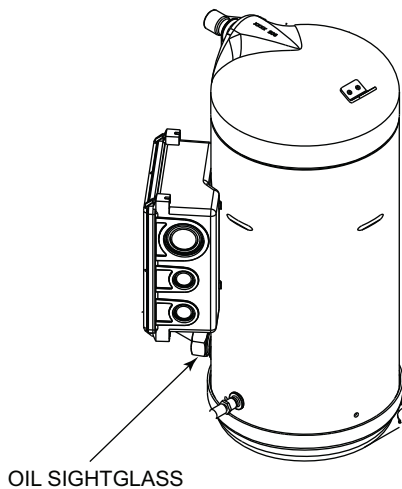

Fig. 25 — Sight Glass Location
5. Oil should be visible in the compressor sight glass(es). See Fig. 25. An acceptable oil level in the compressors is from $\frac{1}{8}$ to $\frac{3}{8}$ of sight glass when the compressors are off. Adjust the oil level as required. See Oil Charge section on page 45 for Carrier approved oils.